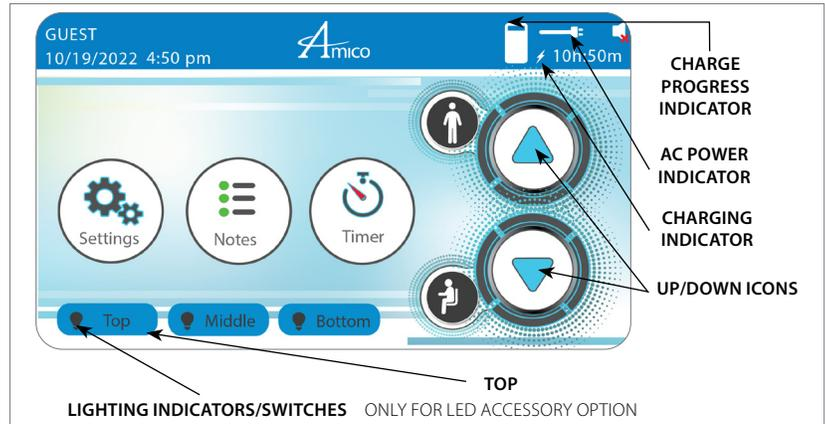

Figure 26
3. To access the settings menu (Figure 27), tap on the "**SETTINGS**" icon from the main menu (Figure 26).
5. The settings menu also has presets for light/screen brightness and volume (night and mute). When the volume is muted, a small red "X" will appear over the speaker icon (top right corner Figure 26, Figure 27 and Figure 28).
6. To return to main menu (Figure 26), tap "**OK**".